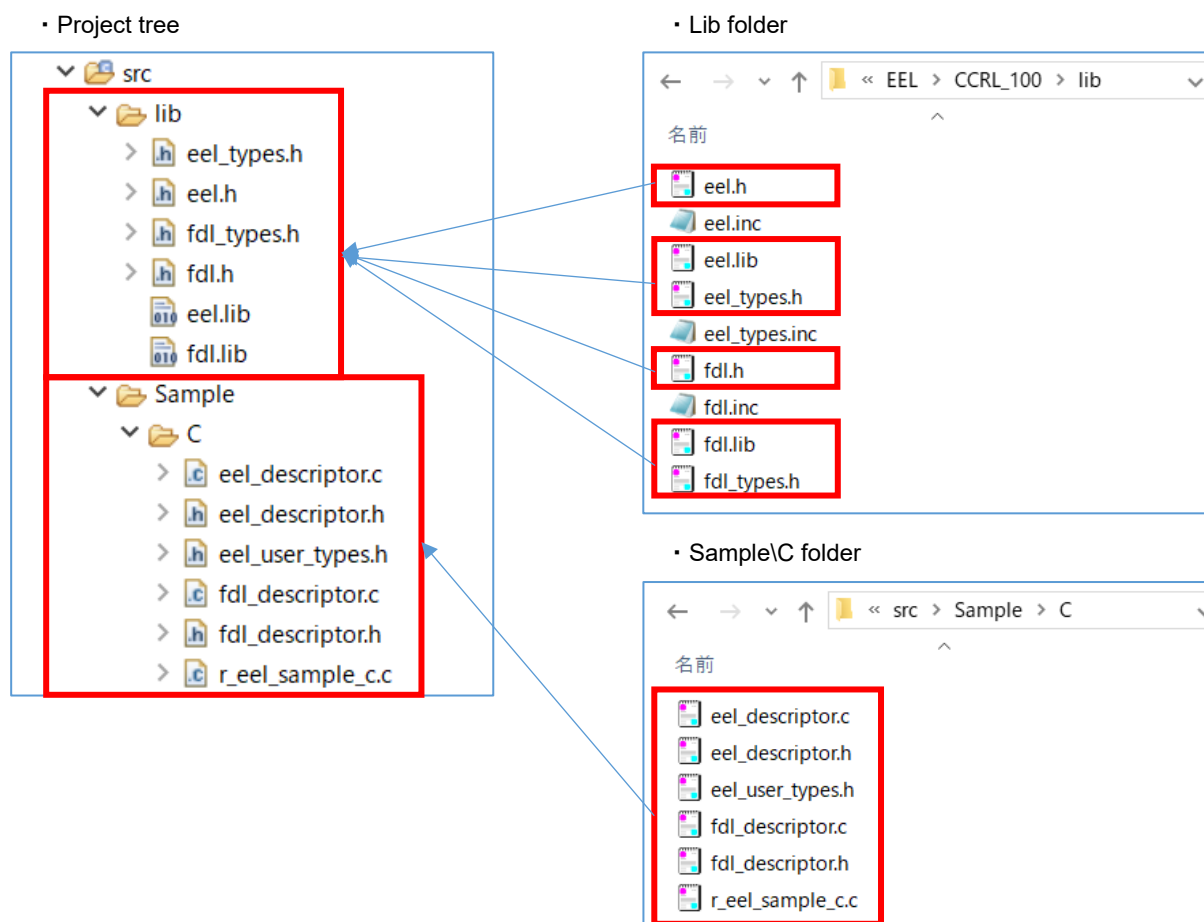

Figure 6-14. Specifying the Source and Include Files (CC-RL)
- CC-RL: Register "eel.h", "eel_types.h", "eel.lib", "fdl.h", "fdl_types.h" and "fdl.lib" in the "src" folder output by e² studio. Also, register descriptor files "eel_descriptor.c", "eel_descriptor.h", "eel_user_types.h", "fdl_descriptor.c", "fdl_descriptor.h" and sample program file "r_eel_sample_c.c" (as shown in Figure 6-14).